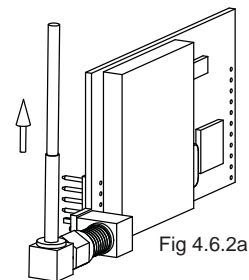

Fig 4.6.2a
- 2) Attach antenna connector to radio board with the cable in the orientation shown in Fig 4.6.2a. **Note: In some RC monitors, cable tie may need to be cut to attach antenna.**